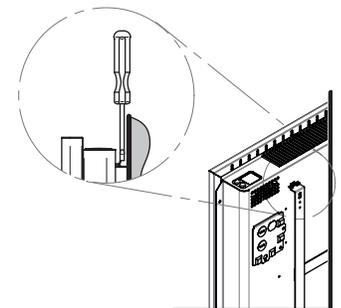

FIGURE 7
1. Using a screwdriver, press on each clip. (FIGURE 7)